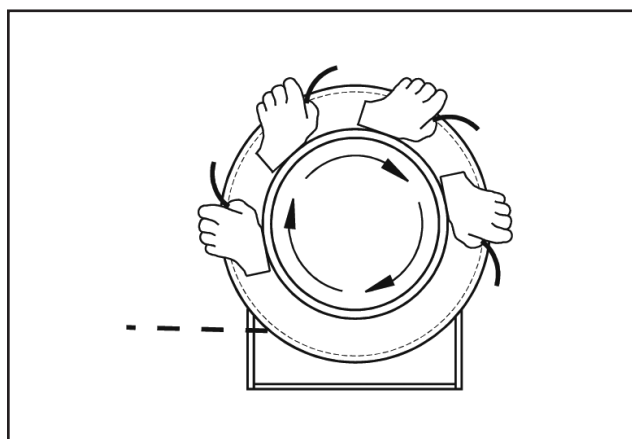

Figure 13-2
1. Relieve the spring of all tension before putting on setup turns. Grasp the end of the cable and the spool and rotate both spool and cable together in the payout direction until the spring engages. See **Figure 13-2**.